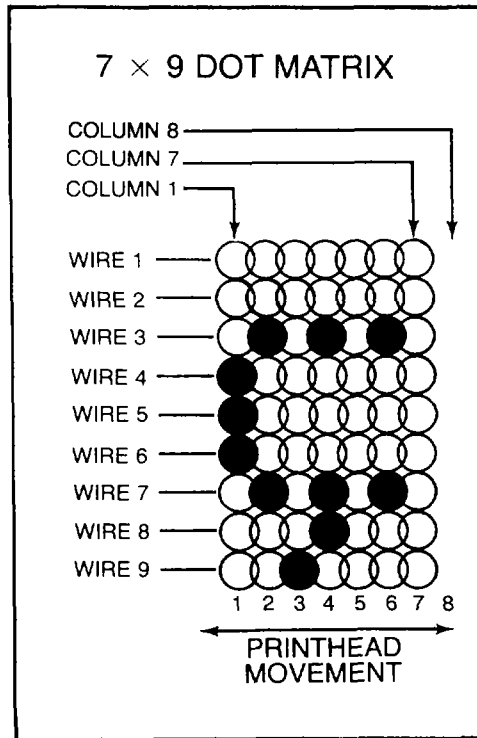

Figure 3-3. Download Character Example
The character shown in Figure 3-3 will be used as an example for defining and loading (in nibble mode) one character that could be part of a character set. Also, the ANSI selection commands of Table 3-2 will be listed. When the downloaded character set is selected and a value of (21) is received at the interface, the downloaded dot pattern of Figure 3-3 will be printed instead of the standard “!” character.
Any printing character (including 1-8H, 0F-1A, and 1C-7F) may be defined except control codes. Each dot pattern in a character set is defined using a 7x9-dot matrix as shown in Figure 3-3. How characters are actually printed is given in the following paragraphs.
The 7x9 print matrix is filled in with the dots for the character to be defined, as in Figure 3-3. Notice there are 8 columns called out but only 7 are shown. Column 8 is always blank. The dots to be printed are selected using the printhead firing codes. These codes are in two nibbles: the first nibble is always binary 0011 and the second nibble (DDDD) selects the wires to fire. A "1" in the firing code indicates that the corresponding wire will be fired when that column is printed. A "0" in the firing code indicates that the wire will not be fired. Print wires may not be consecutively fired (i.e., the same bit may not be a "1" in two successive firing codes) unless in memo-quality mode.
For Figure 3-3, the printhead firing codes (second nibble) are as follows:
The entries for the escape command sequence DCS  $\langle 1B 50 \rangle$  or  $\langle 90 \rangle$ , used to load a printer with a character (set) are outlined in the following steps. These entries are for loading the character of Figure 3-3 to replace the character “!”.
4. The firing codes are obtained from the data of Figure 3-3:
Therefore, the download sequence for the defined character of Figure 3-3 is:
These entries are diagrammed in Table 3-6 which shows the completed ANSI escape command sequence for loading the character of Figure 3-3 into the printer.